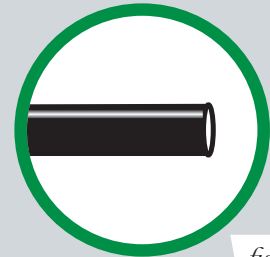

fig. 25
When cutting air lines, use a sharp knife or a hose cutter and make clean, square cuts (Fig. 25). Do not use scissors or wire cutters because these tools will deform the air line, causing it to leak around fittings. Do not cut the lines at an angle.
1. If there is a problem with the push-to-connect fitting, remove the air line as described above. Trim 1" off the end of the air line. Be sure the cut is clean and square (see Fig. 25).